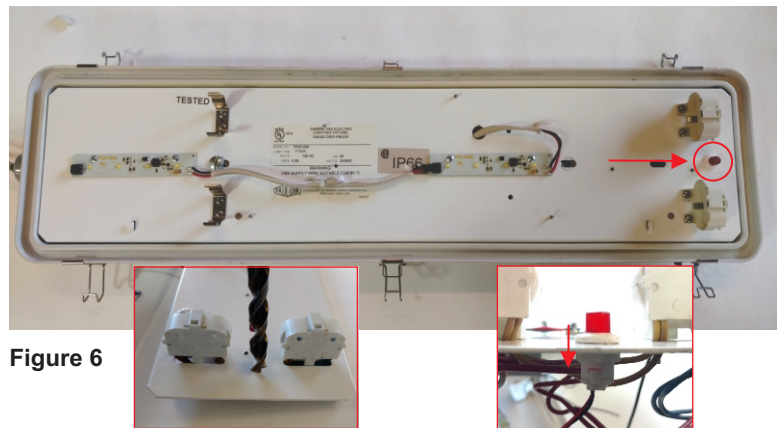

Figure 6
10. Drill a 1/2" hole into the luminaire mounting plate in the location indicated in figure 6, and Insert the Test Switch into the pre drilled hole in the luminaire mounting plate and secure it using the test switch hex nut.